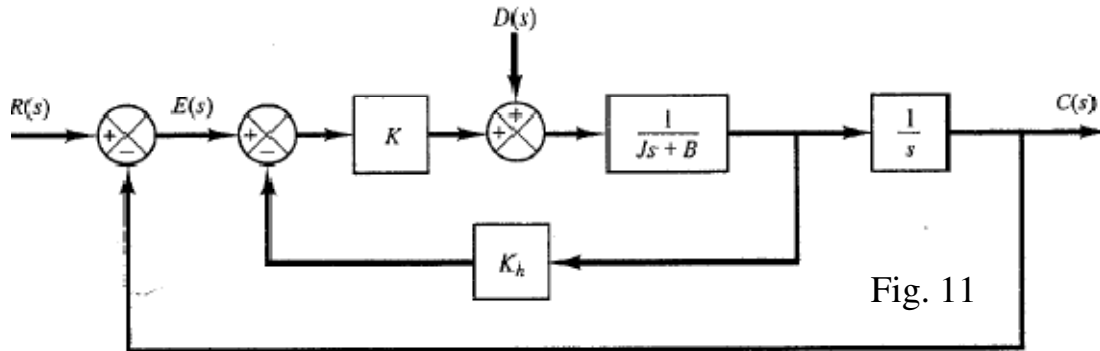

Fig. 11
- 16) Consider servo system with tachometer feedback shown in Fig. 11. Obtain the error signal $E(s)$ when both the reference input $R(s)$ and disturbance input $D(s)$ are present. Obtain also the steady-state error when the system is subjected to a reference input (unit-ramp input) and disturbance input (step input of magnitude d).